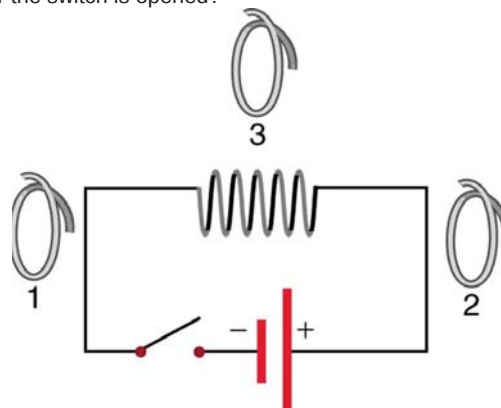

Figure 23.58
5. Referring to **Figure 23.58**, what are the directions of the currents in coils 1, 2, and 3 (assume that the coils are lying in the plane of the circuit): (a) When the switch is first closed? (b) When the switch has been closed for a long time? (c) Just after the switch is opened?